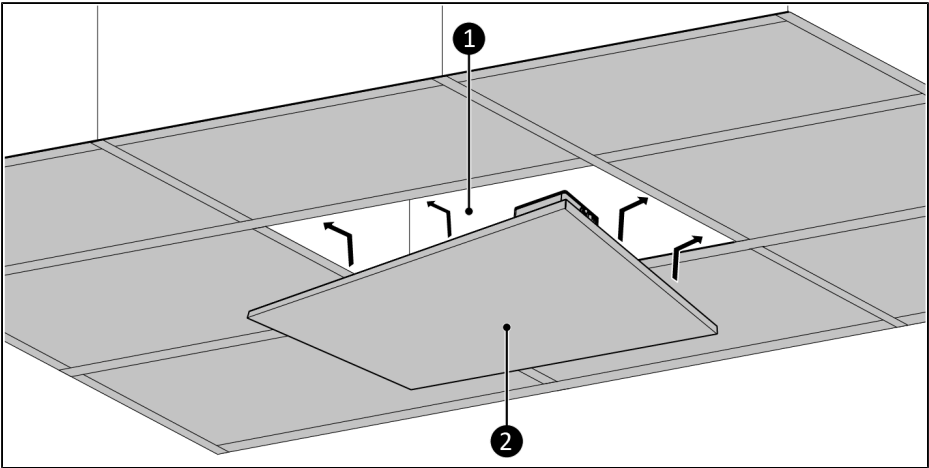

Figure 18.
1. Remove the ceiling plate (Figure 18, pos. 1) from where you wish to install the device.
3. Carefully place the device (Figure 18, pos. 2) in the suspended ceiling grid (Figure 18, pos. 1).